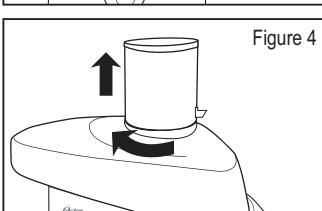

Figure 4
- Turn the food chute slightly counter clockwise to unlock the tabs from their locked position and then move it up to remove it from the lid (**Figure 4**)